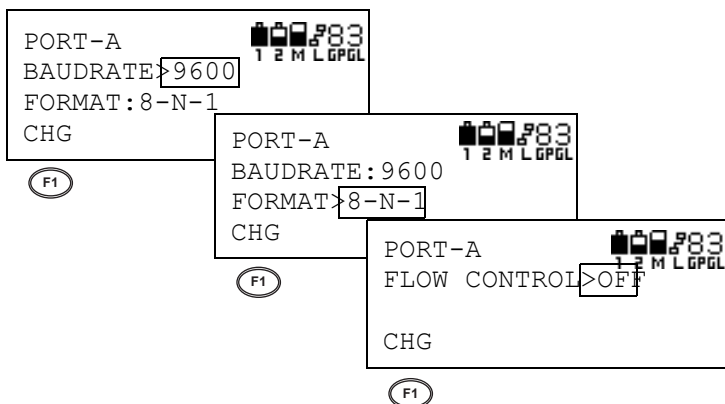

Figure 3-80. Press F1 when Changing Each Parameter
- Press **F1** (CHG) to change the port's parameters (Figure 3-80). See "Selecting Parameters" on page 3-10 for details on this procedure.